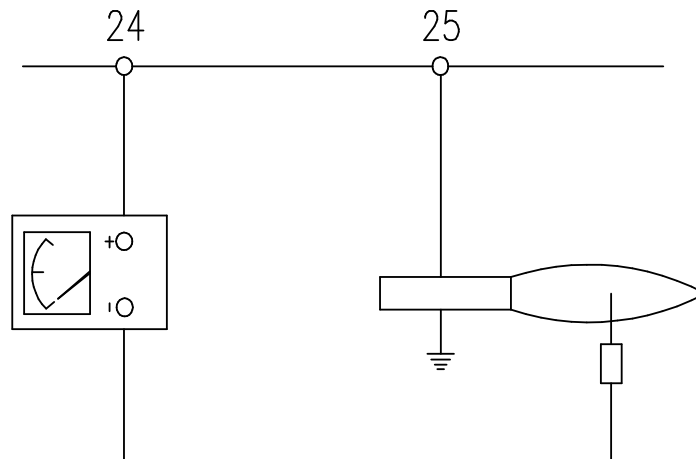

Fig. 8-8. Measurement for Flame Current
(1) Instruments
(2) Procedure
- (a) Connect the electric wire as shown in Fig. 8-8.